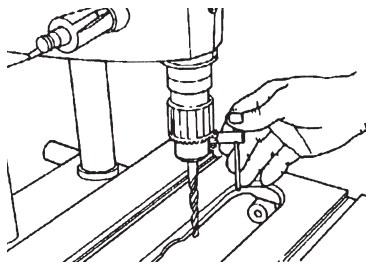

Figure 8
7. Install a 1/2" Straight Drill Bit in the Drill Chuck and use the Chuck Key to lock it place. See Figure 8.